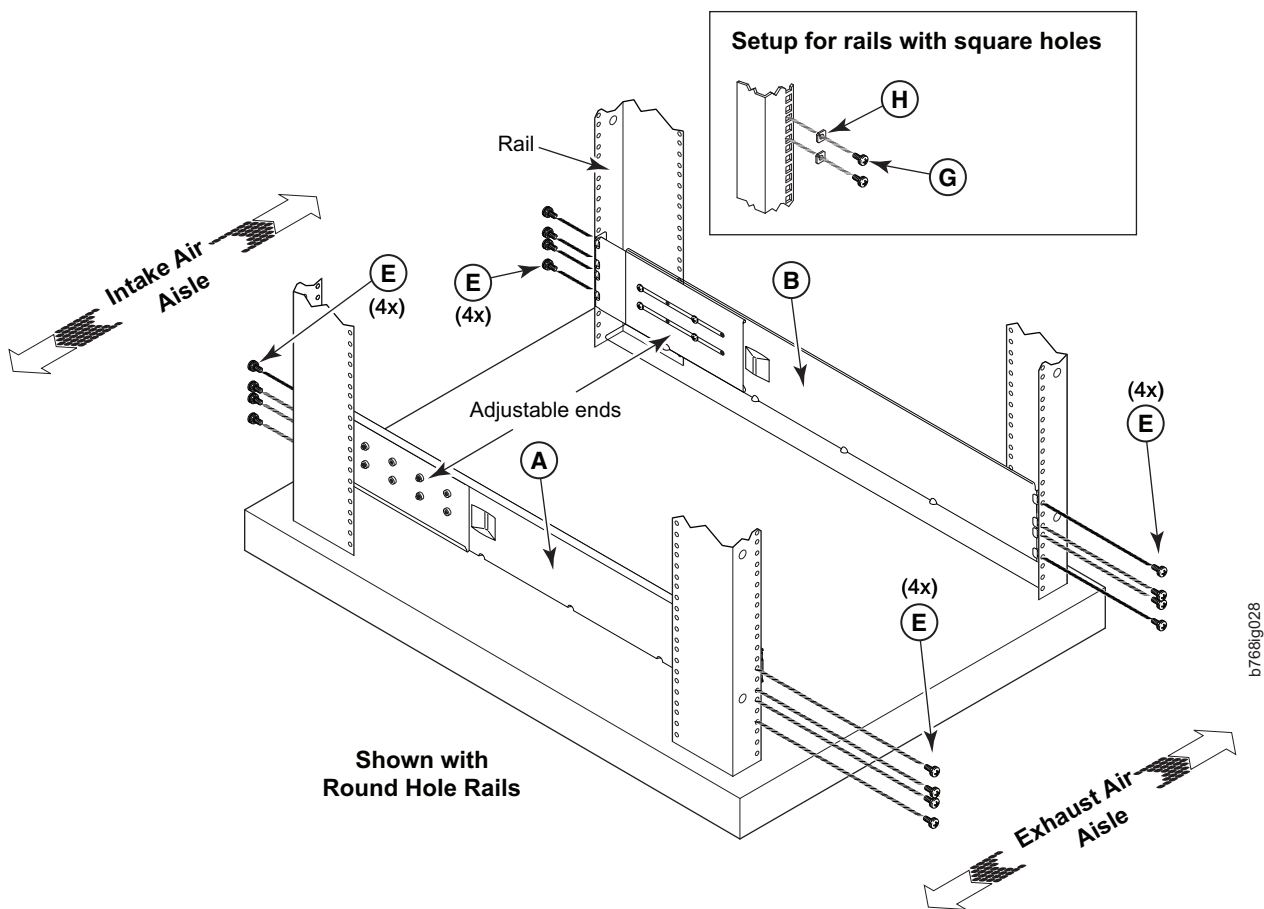

Figure 4. Left and right shelf brackets installed on the cabinet rails
1. Find the left and right rack mount shelf brackets (**A** and **B** in Figure 4) in the 14U rack mount kit. These brackets are adjustable to allow for different cabinet depths.
3. Position the shelf brackets (**A** and **B**) with the adjustable ends at the intake aisle side of the cabinet (see Figure 4) and attach them to the cabinet rails.